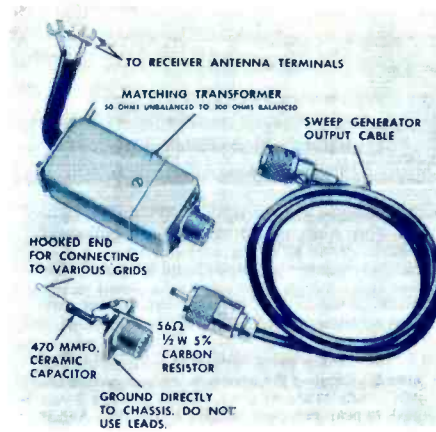

Fig. 10 IF-RF Alignment Fixtures
4. Connect the sweep generator through a terminating network similar to that shown in Fig. 10 to the grid (pin 1) of the third IF amplifier.
3. Use a 50 to 300 ohm matching transformer similar to Fig.10 and feed the output from the sweep generator to the antenna terminals of the tuner.